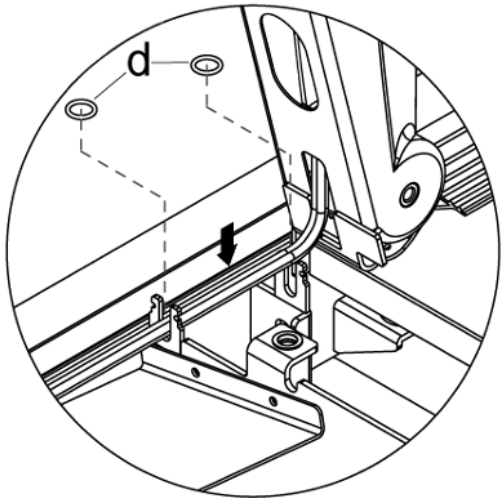

Fig 3-1-1
- a) Route the cables exiting from Pedestal – R into cable restraints and secure with two O-rings (d) as shown in Fig. 3-1-1 to the left. Eliminate any slack in cables to ensure they are not pinched when pedestals are upright.